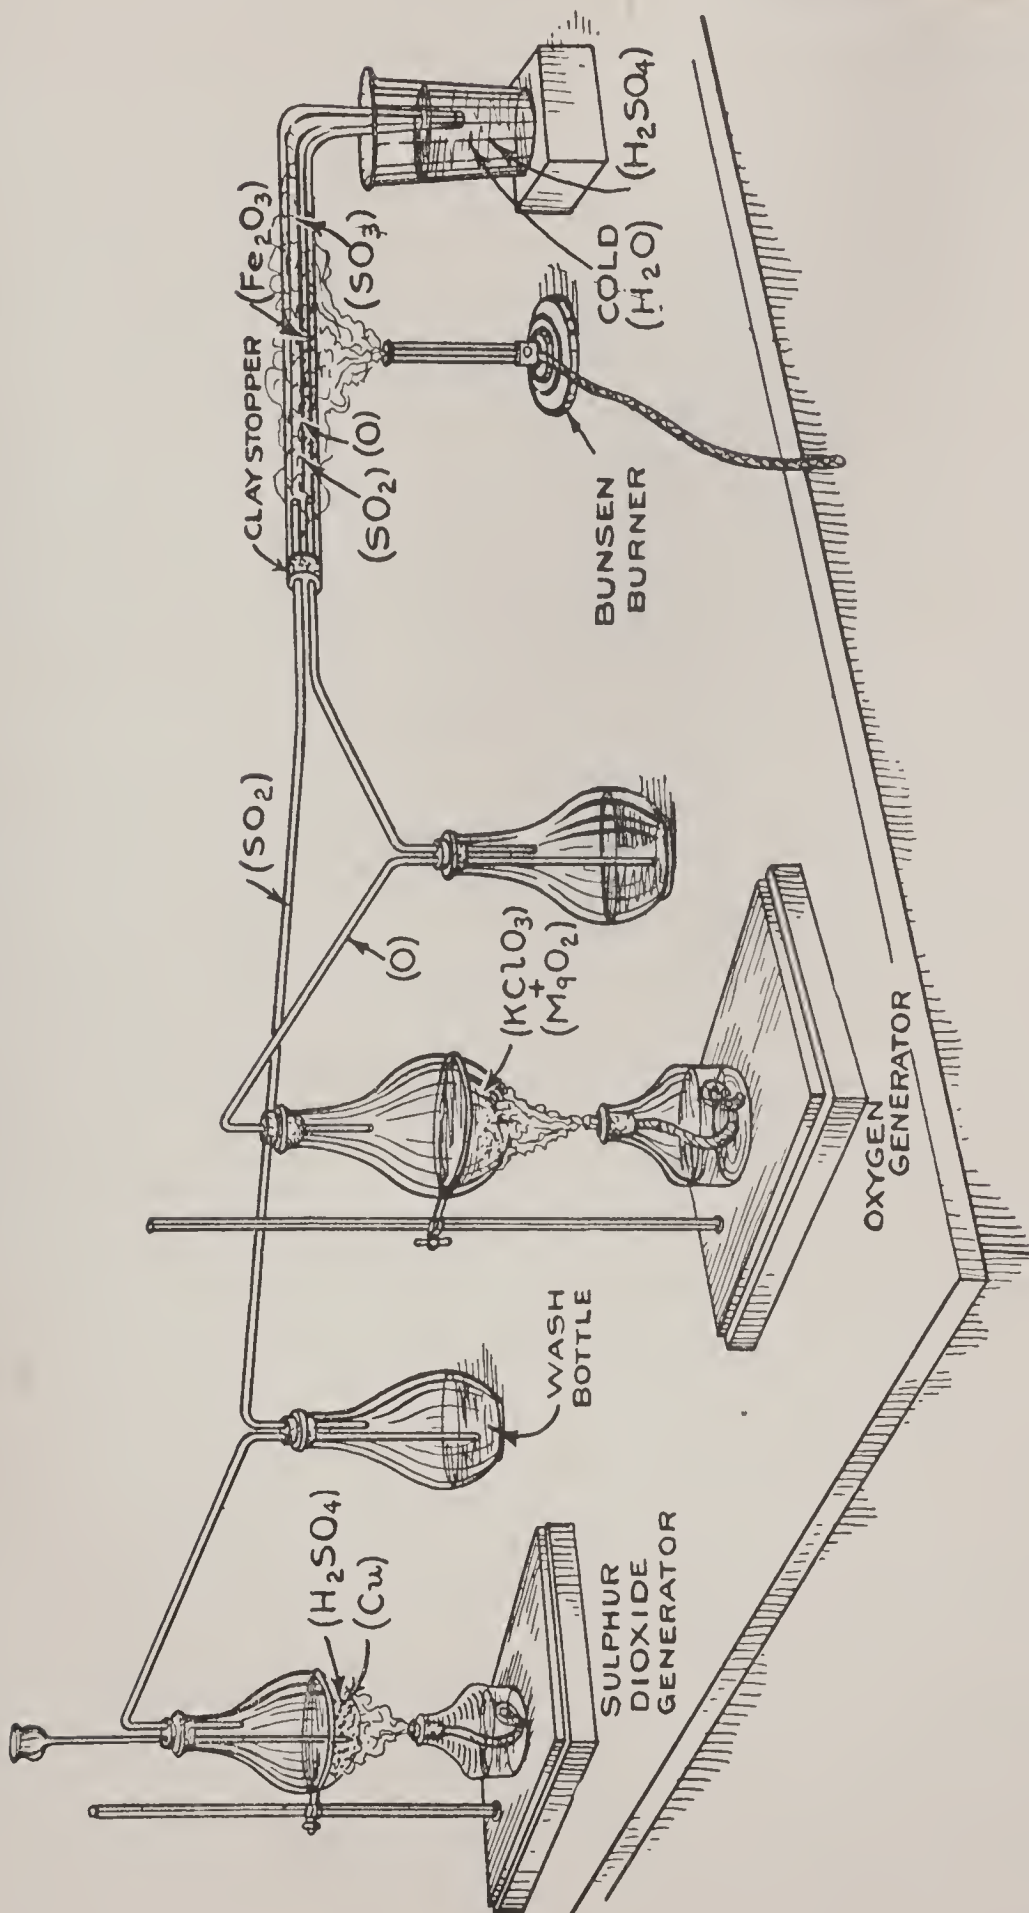

FIG. 112.—Laboratory Method for Making Sulphuric Acid.
How to Make Sulphur Dioxide. Put 1 ounce of copper turnings (Cu) into a pint flask and pour 2 ounces of concentrated sulphuric acid (H_2SO_4) on them; this done, put a cork that has a delivery tube in it in the flask and heat the latter gently, and sulphur dioxide (SO_2) will be given off. Just as soon as the gas begins to pass over, raise the flask above the flame high enough so that the gas will flow from the delivery tube in a steady stream. Couple the delivery tube with a wash-bottle, and then you are ready to connect it with the apparatus for making sulphur trioxide (SO_3). See Fig. 112.
How to Make Sulphuric Acid. To make sulphuric acid (H_2SO_4) you need only to set the nozzle end of the tube into a beaker containing a little ice-water (H_2O), and as the sulphur trioxide (SO_3) flows out through the former it condenses into sulphuric acid (H_2SO_4). The complete apparatus for generating the oxygen (O) and sulphur dioxide (SO_2), changing these into sulphur trioxide (SO_3), and finally collecting this as sulphuric acid (H_2SO_4), is shown in Fig. 112.